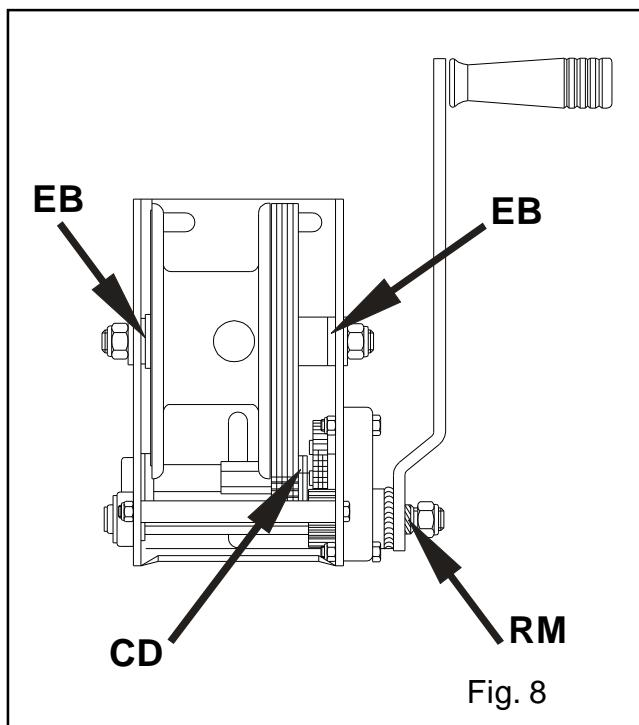

Fig. 8
**5.2** - The lift is supplied completely greased from the factory. Never the less, we recommend you periodically grease (depending on amount used) the teeth of the winch (**CD**), end point of the handle (**RM**), bar (**EB**) (Fig. 8) and the profile nylon drums.